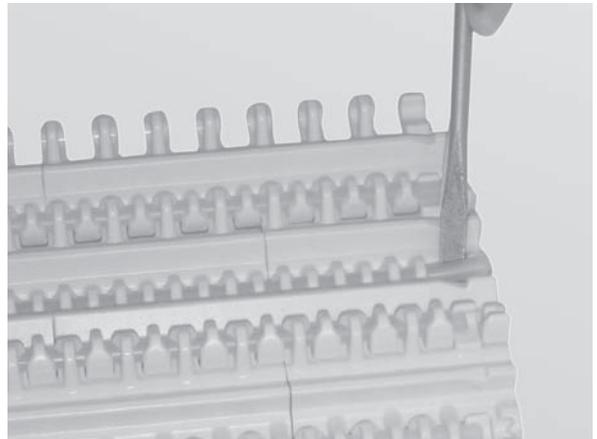

Figure 60
2. Use a flat head screwdriver to raise the end of the belt rod above the retention lip (Figure 60).